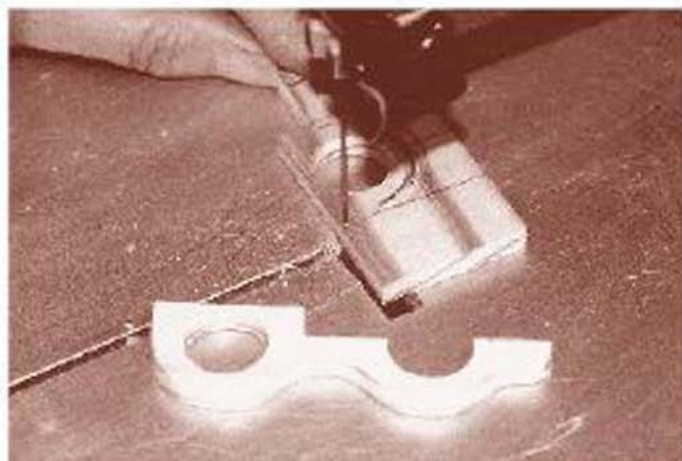

FIGURE 21-6
- 2** Since the guides are relatively fragile, drill the holes through before cutting the profile on the scrollsaw (Figure 21-6).